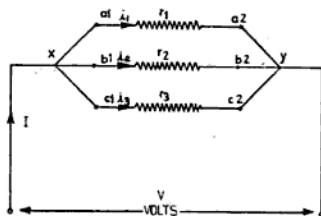

Fig. 3.10 Parallel combination of resistance
**Parallel Combination of Resistances** If two or more than two resistances are connected in such a way that all the entry ends are joined together at one junction and all the exit ends are connected together at another junction and these two junctions are taken as terminals for supply as shown in Fig. 3.10, then such an arrangement is called a parallel combination of resistance.
**Calculation of Total Resistances in Parallel Combination Circuit** Now consider three resistances  $r_1$ ,  $r_2$  and  $r_3$  connected in parallel as shown in Fig. 3.10. Let the potential difference of  $V$  be applied across the two junctions  $x$  and  $y$  so that the potential is the same across each resistance. Let the supply current be  $IA$  and the current flowing through the individual resistance be  $i_1$ ,  $i_2$  and  $i_3$ , i.e.